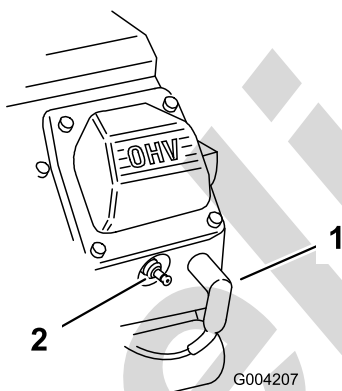

Figure 26
2. Pull the wires off of the spark plugs (Figure 26).
3. Push the wires onto the spark plugs (Figure 26).